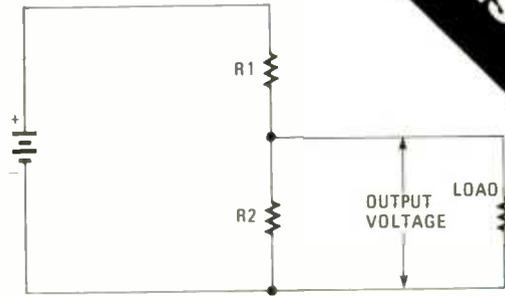

Fig. 15—When a load is used with a voltage divider the series current splits between the parallel resistors.
31. (8) The formula above assumes that no load is connected to the voltage divider output. But in practice, that is not true. Some load, a resistance, will appear across the output as shown in Fig. 15. That load, of course, will draw current from the circuit. The resulting circuit is no longer a simple series circuit. Instead, it is a combination circuit. Therefore, the formula above no longer holds true. To find the output voltage, you simply use the procedures described previously for computing combination circuits.